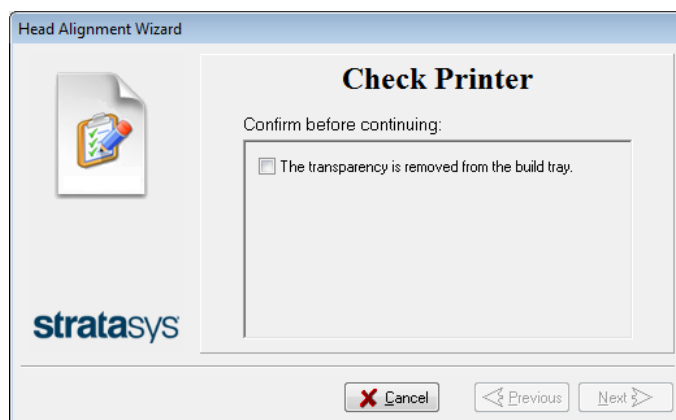

Figure 4-61 Head Alignment wizard—steps 7–9
- In the wizard screen shown in Figure 4-61, select the *Transparency removed* check box, and click **Next**.